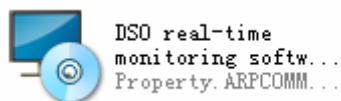

Fig.1-1
Step 1: Insert the CD provided with the oscilloscope into the CD-ROM of a computer that will read content of the CD. Find the software (Fig.1-1).
Step 2: Double left click the mouse to run the installer of the software as shown in Fig.1-1. An installation preparation interface of the software as shown in